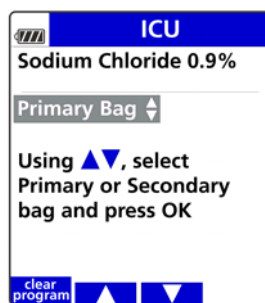

Figure 40. Bag Selection Screen.
3. Press the arrow soft keys to select a primary bag or a secondary bag and press **OK**. See Figure 40.